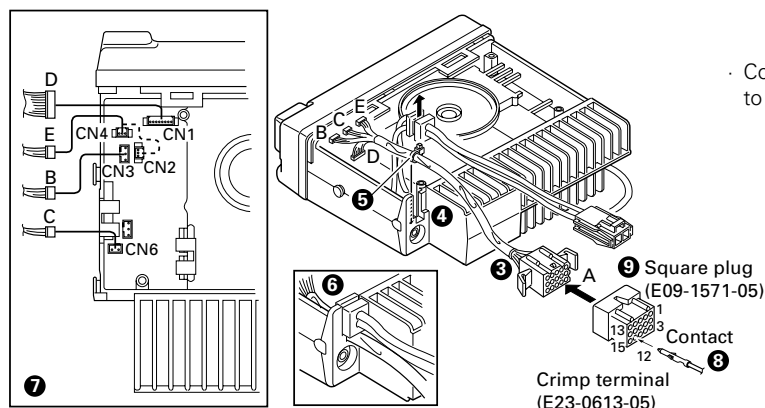

Fig. 2
4. Replace the DC cord bushing (❻).
5. Connect the KCT-19 to the TX-RX unit (A/2) as shown in Figure 2 (❼).
6. Connect the KCT-19 to the external accessory by inserting the crimp terminal (❽) into the square plug (❾), both of which are supplied with the KCT-19.